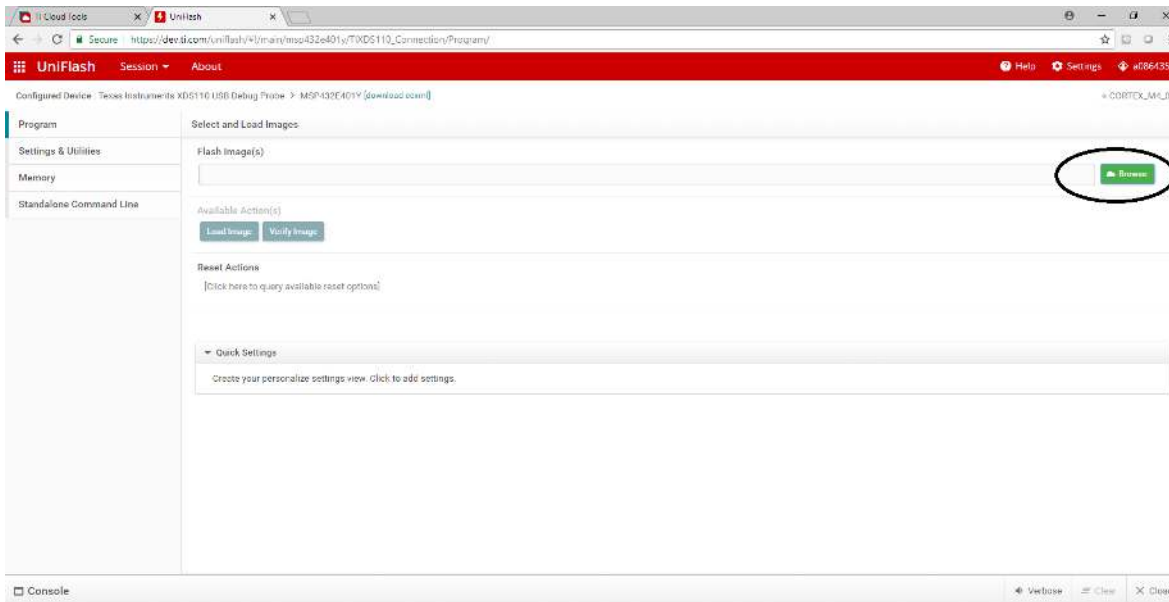

Figure 13. UniFlash: Browse to Firmware
- From the *Program* tab shown in Figure 13, *Browse* to the *Flash Image* to be installed. The firmware file is found under the *Program Files (x86)\Texas Instruments\ADS1119\firmware* folder.